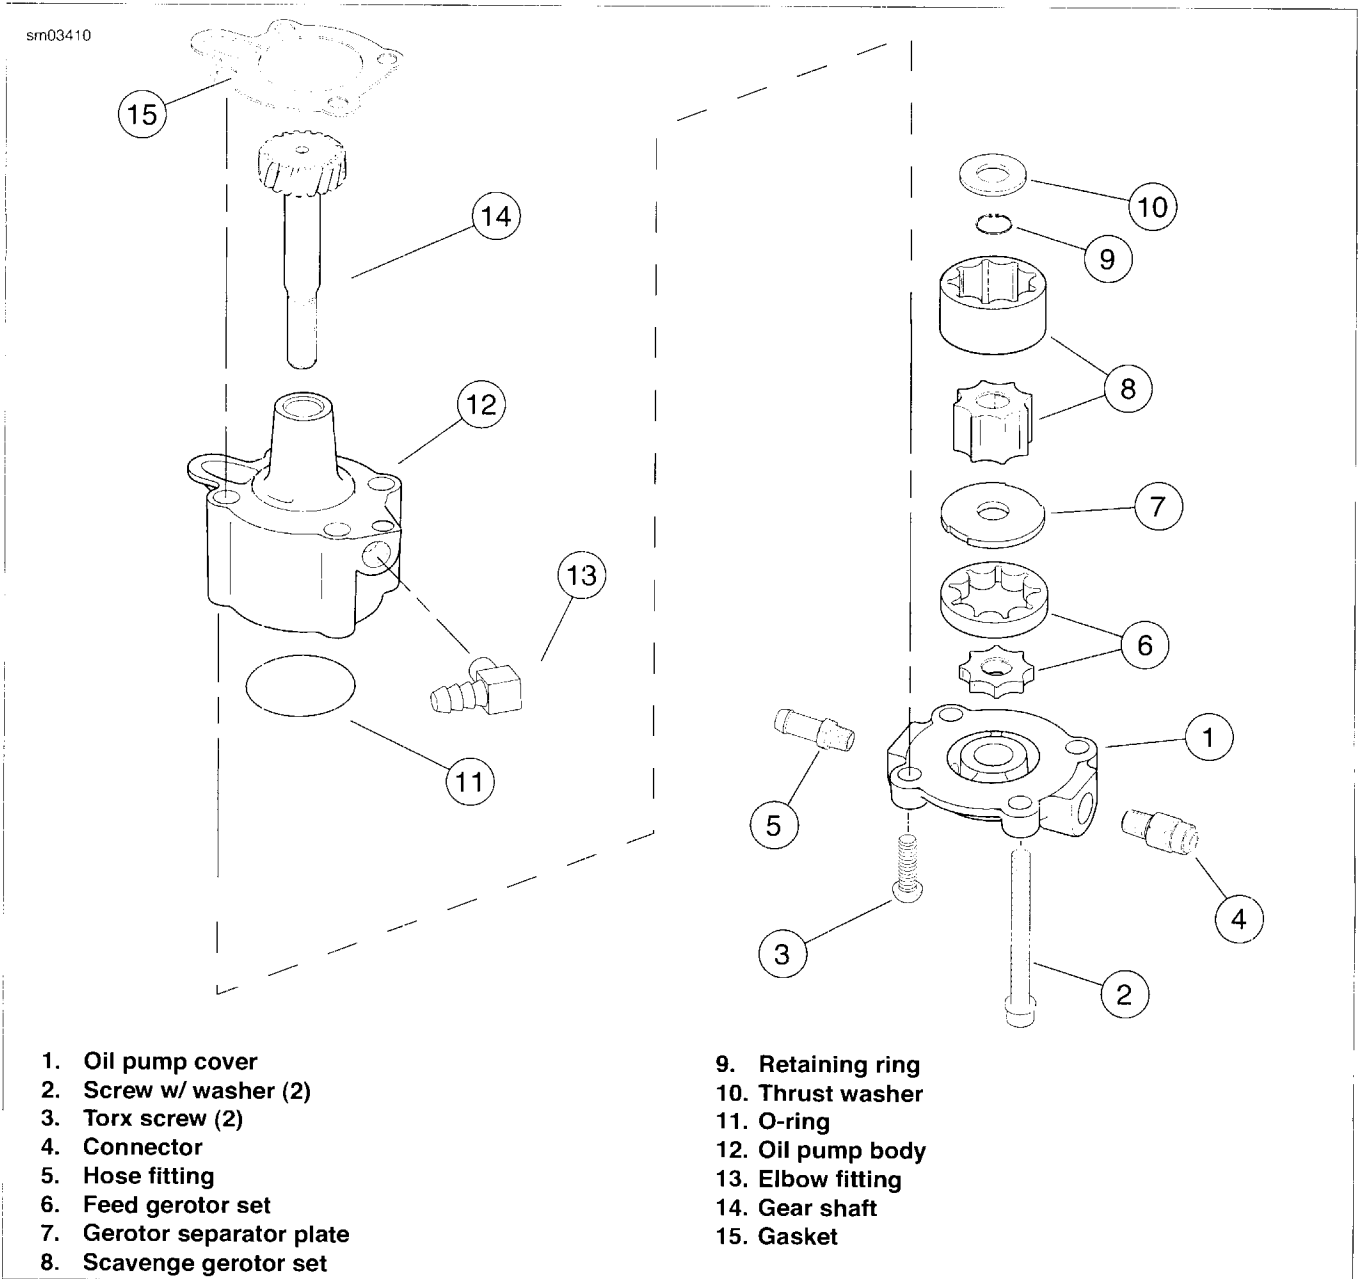

Figure 3-165. Oil Pump: XL Models
See Figure 3-165. The oil pump is designed to be removed as a complete assembly by removing the two long screws (2) at opposite corners of the pump. The other two screws (3) hold the pump together so that it may be removed and installed as a unit.
3. See Figure 3-165. Carefully remove two screws (2) that secure oil pump to crankcase. Pump will drop with screws removed. Discard mounting gasket (15).
1. See Figure 3-165. Remove two Torx screws (3). Lift cover (1) off body (12). Remove and discard O-ring (11).
2. Slide both pieces of feed gerotor set (6), separator plate (7) and both pieces of scavenge gerotor set (8) off gear shaft (14).
3. Remove and discard retaining ring (9). Remove thrust washer (10) and gear shaft.
1. See Figure 3-165. Install gear shaft (14) through oil pump body (12). Position thrust washer (10) over end of shaft. Install **new** retaining ring (9) into groove in shaft.
2. Insert inner gerotor of the scavenge gerotor set (8) over gear shaft.
4. Position separator plate (7) into case and line up slots on perimeter with tabs inside oil pump body.
5. Place feed gerotor set (6) over gear shaft.
6. Install a **new** O-ring (11) into groove in oil pump cover (1). Place cover onto pump body. Install two Torx cover screws (3). Tighten to 70-80 **in-lbs** (7.9-9.0 Nm).
1. See Figure 3-165. Place **new** mounting gasket (15) in position.
2. Secure pump to crankcase with two screws (2). Tighten to 125-150 **in-lbs** (14.1-16.9 Nm).